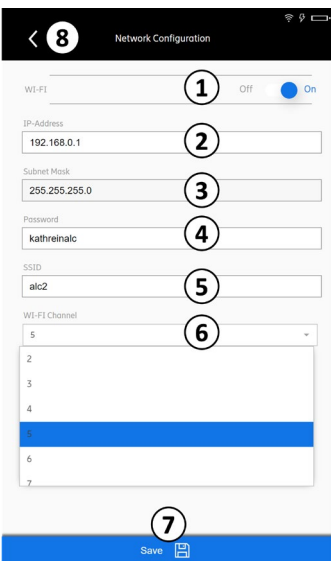

Fig. 20: Network configuration
- ① Move the Wi-Fi control (① in Fig. 20) to the right.
- ① Move the Wi-Fi control (① in Fig. 20) to the left.
- 4 At the end of all the changes done in the Numerical Configuration submenu, tap Save to save the changes (7 in Fig. 20).
- 6 At the end of all the changes done in the Numerical Configuration submenu, tap Save to save the changes (7 in Fig. 20).
1. Tap the SSID value field (⑤ in Fig. 20).